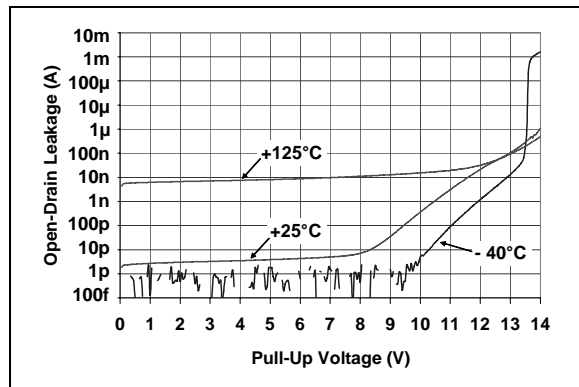

FIGURE 2-33: Open-Drain Leakage Current vs. Voltage Applied to V_{OUT} Pin (MCP121-195).
- Note 5:** This specification allows this device to be used in PICmicro[®] microcontroller applications that require In-Circuit Serial Programming[™] (ICSP[™]) (see device-specific programming specifications for voltage requirements). This specification DOES NOT allow a continuous high voltage to be present on the open-drain output pin (V_{OUT}). The total time that the V_{OUT} pin can be above the maximum device operational voltage (5.5V) is 100s. Current into the V_{OUT} pin should be limited to 2 mA and it is recommended that the device operational temperature be maintained between 0°C to 70°C (+25°C preferred). For additional information, please refer to Figure 2-33.